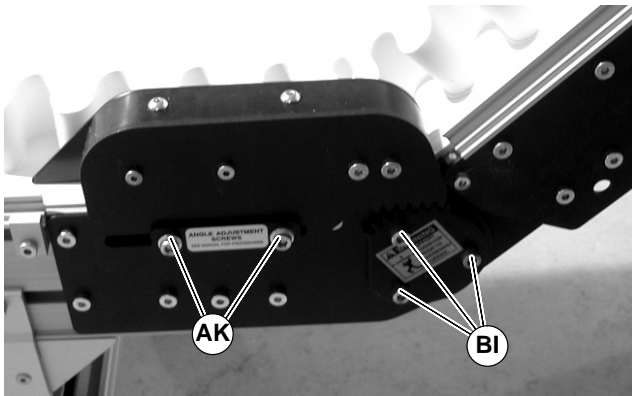

Figure 50
- Loosen screws (AK and BI of Figure 50) on both sides of knuckle.